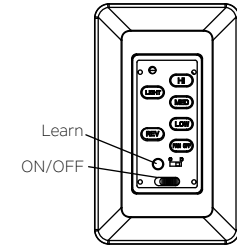

Fig. 21
**Step 1.** After installation is complete, press the LEARN button for 3 seconds within 30 seconds of AC power is turned on. Fan will turn on at medium speed and light (if installed) will turn on. This confirms that the SMART SYNC setting is active and ok. (Fig. 21)
Restore power to ceiling fan and test for proper operation (Fig. 21)